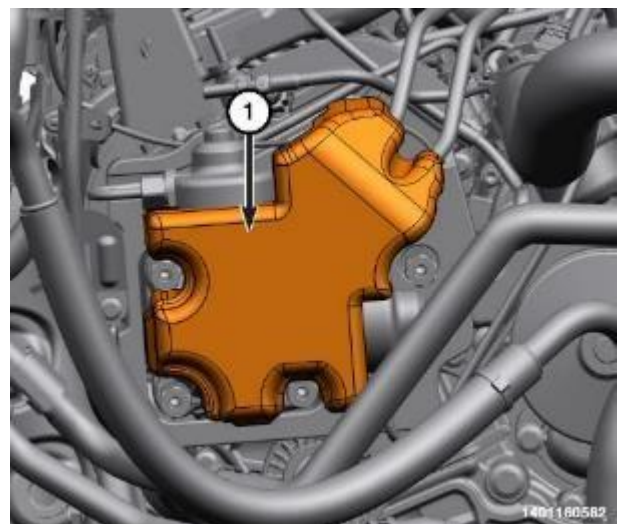

Figure 88 – Pump Silencer
177. Install the fuel injection pump silencer (1) (Figure 88).